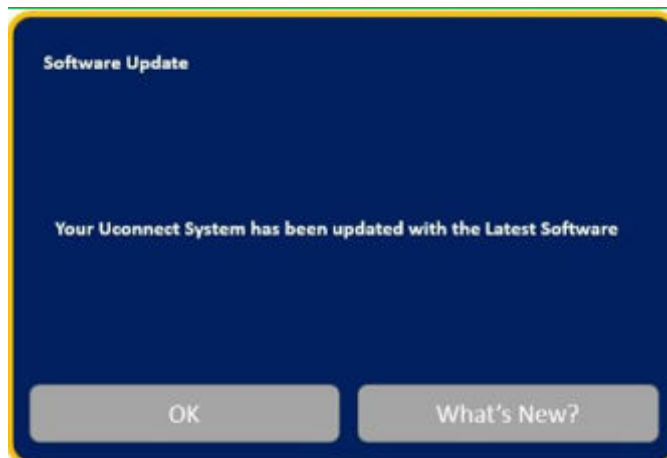

Fig. 8
11. After the update is done the screen will display “Update successful” Fig. 8.